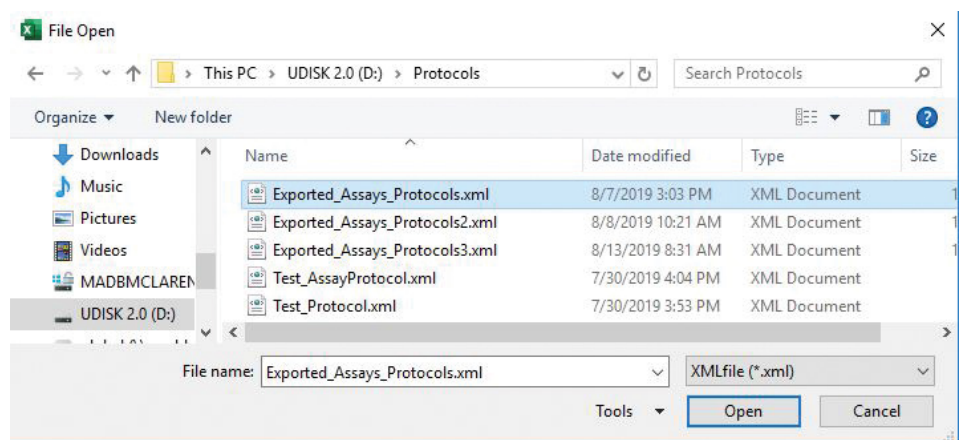

Figure 191. Browsing window.
2. Selecting **Open** brings up a browsing window (Figure 191) to allow you to navigate to the location of a protocols .xml file previously exported from a Spectrum Compact CE System (Section 7.5.1) and transferred via a USB drive to the PC.
3. Select the desired protocols .xml file and select **Open** on the browsing window (Figure 191).